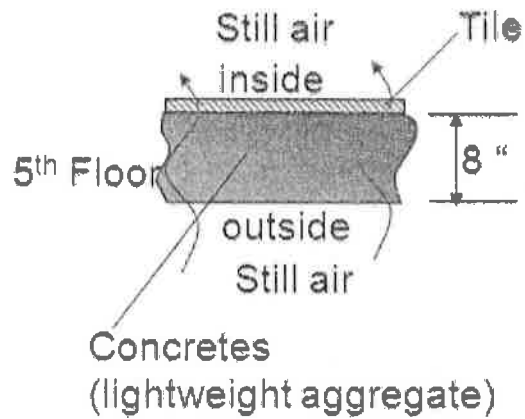

Figure Q3 (a): Heat Transfer in the Building
- (a) Referring Figure Q3 (a), calculate the Total Thermal Resistance ΣR in $\text{ft}^2 \cdot \text{hr} \cdot \text{F} / \text{Btu}$. Given that the surface emittance is 0.9.